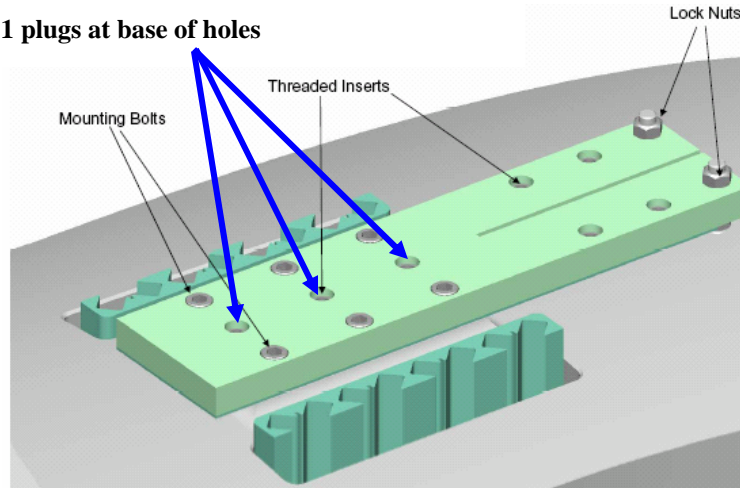

Figure 16-Installation of Lead Terminal Base
- Install the G-11CR base plate and secure in place with 0.375 mounting hardware and Loctite 2440. [Figure 16-Installation of Lead Terminal Base] Install G-11 plugs at bottom of threaded holes.